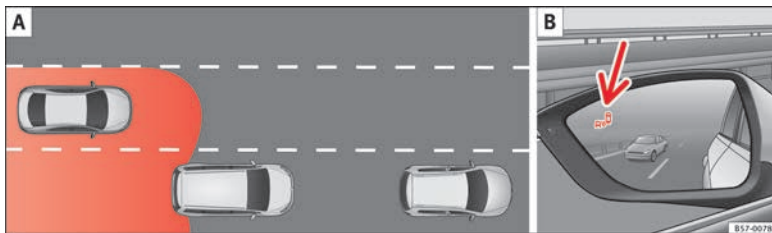

Fig. 196 Schematic diagram: **A** Passing situation with traffic behind the vehicle. **B** Indication from the blind spot detector in the left-hand external mirror.
In the following situations, an indication will be displayed in the external mirror »» **Fig. 196 B** (arrow) or »» **Fig. 197 B** (arrow):
- When being overtaken by another vehicle »» **Fig. 196 A**.